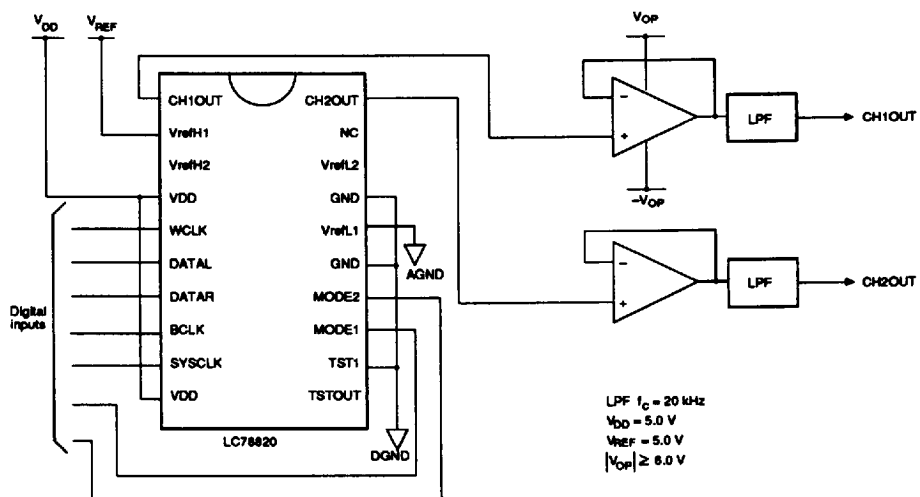

Figure 6. DC-coupled D/A converter
- Measurements are taken with a sampling frequency of $F_s = 384$ kHz using the typical application circuit shown in figure 6.